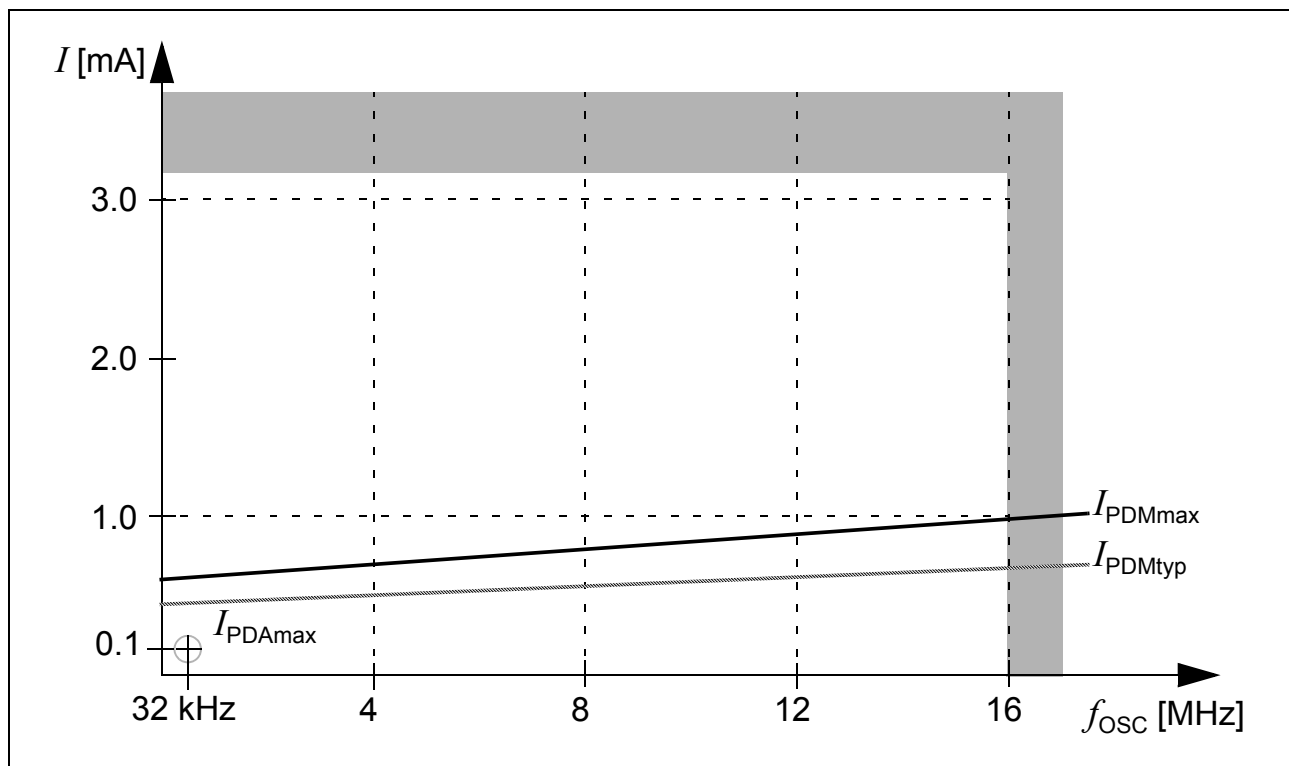

Figure 11 Sleep and Power Down Supply Current due to RTC and Oscillator Running, as a Function of Oscillator Frequency
- 7) This parameter is determined mainly by the current consumed by the oscillator switched to low gain mode (see Figure 11). This current, however, is influenced by the external oscillator circuitry (crystal, capacitors). The given values refer to a typical circuitry and may change in case of a not optimized external oscillator circuitry.